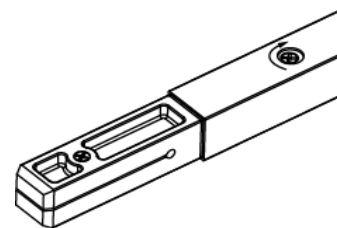

Fig. 1
1. The rod is supplied as two 1.25m lengths which can be joined together using the straight joint provided. Firstly lay the two rods down on a flat level surface. One end of each of the rods has a hole pierced into it approximately 50mm from the end. Insert the straight joint into one of these ends so that the grub screw is central with the hole in the rod. Using the larger of the two hex head keys, provided, rotate the grub screw clockwise until the straight joint is clamped tightly in position (see Fig. 1).